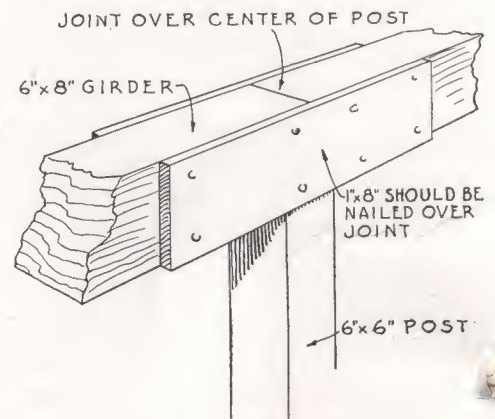

FIGURE 11
- Setting Girders** (b) Pick out the proper girders, each of which is marked GIRDER, for each place, as shown on the SILL and GIRDER PLAN. Lay the girders in position, allowing ends of them to set $3\frac{1}{2}$ inches into the openings left in the walls for girders. Set the girders so that the joints between them will center exactly on the posts. Spike ends of girders together thoroughly and spike girders down to posts, as shown in Figure 11. Use 16-penny nails.
- Girder Tie** (d) Nail a piece of 1"x8" on each side of all joints to further tie girders together (see Figure 11).